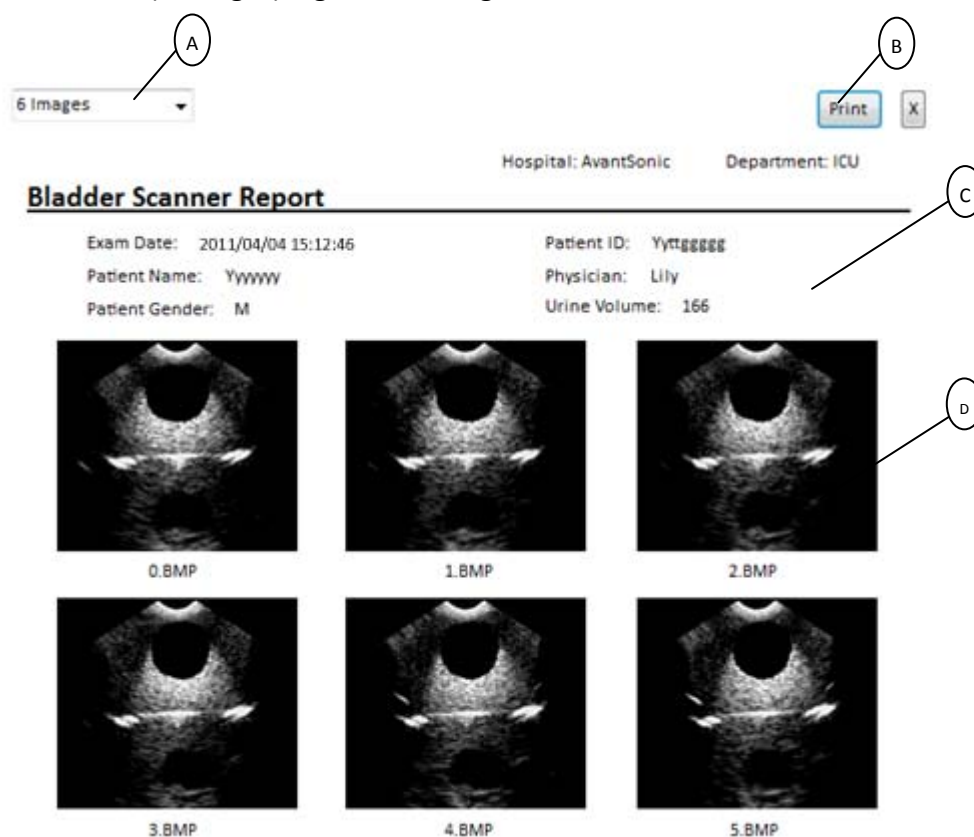
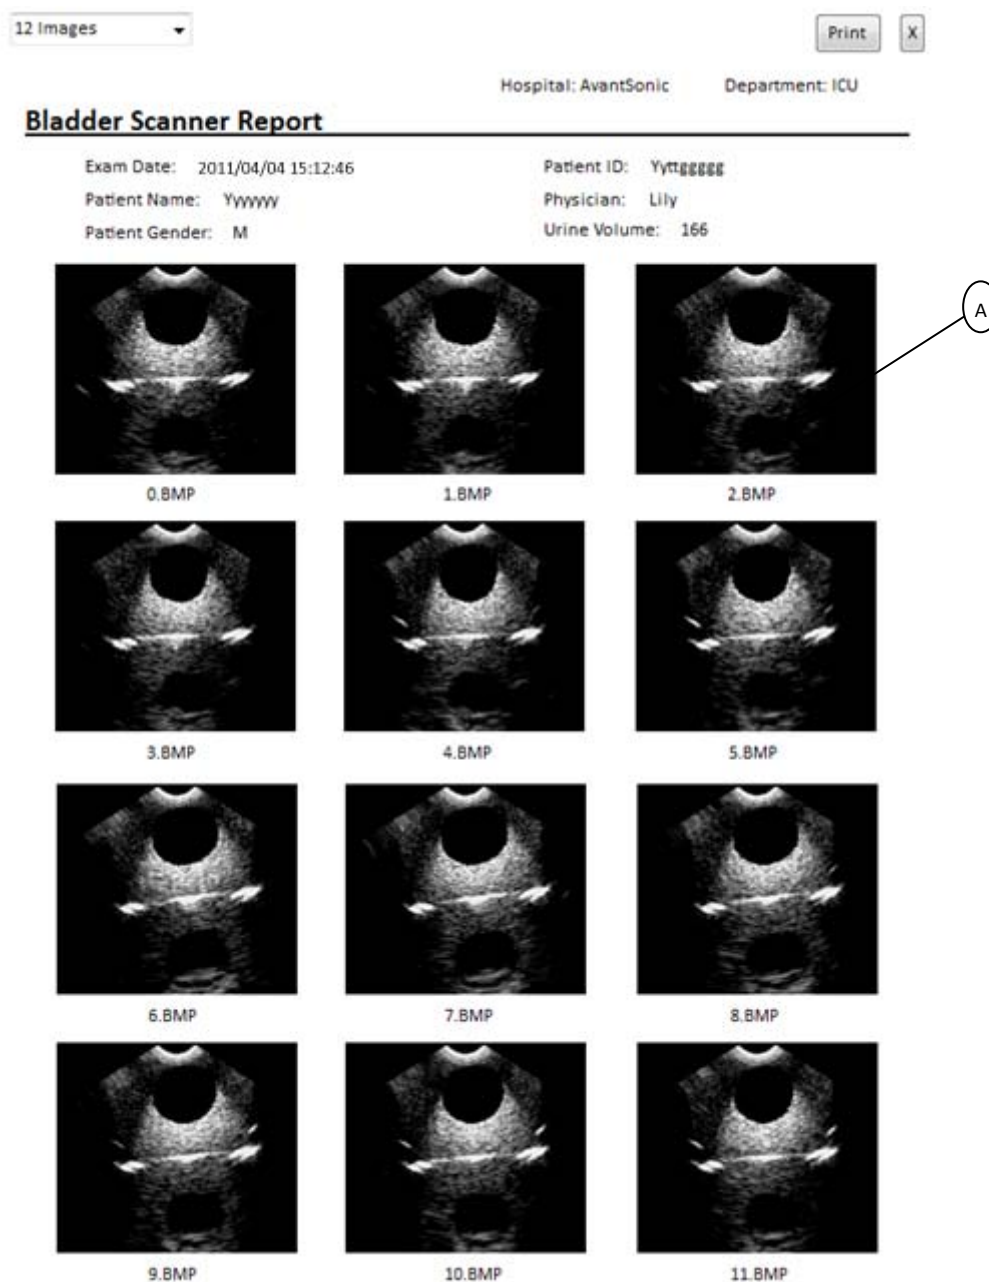

Figure 6-3 Print Interface of the PC of PadScan DS3 (6 images)
Figure 6-4 Print Interface of PC of PadScan DS3 (12 images)
ultrasound images will display in the print interface (Figure 6-3). Click Print key (6 or 12 images selection box, print key and X key will not be printed); Select 12 Images and 12 bladder ultrasound images will display in the print interface (Figure 6-4). Click Print key (same as above). The names of hospital and department are inputted and saved in Option interface while patient information and bladder ultrasound images are displayed in the main interface of PC The patient information could be reviewed in Patient Manager /Printinfo.ini